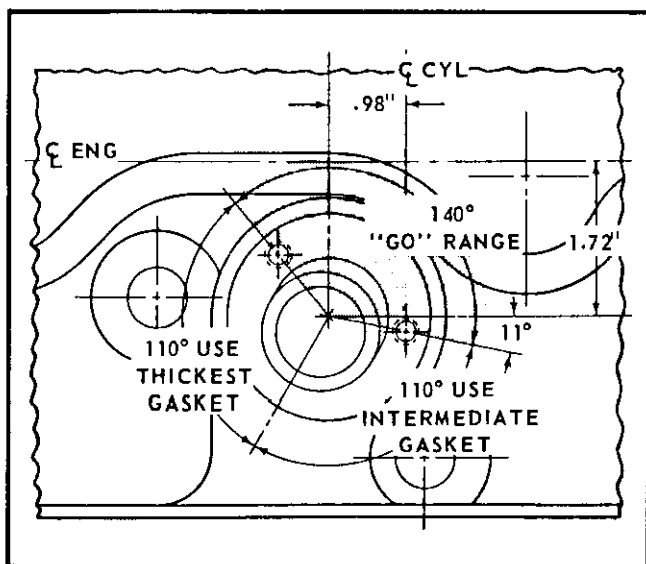

Figure 2-14. Precombustion chamber assembly
5. Install and check precombustion chambers (52) positioning as follows:
a. Install thinnest gasket (54) (0.194 inch) first. Install precombustion chamber (52) and torque to 140 to 160 foot pounds.
b. If glow plug opening is not positioned in the "GO" range indicated on figure 2-14, remove the precombustion chamber and replace gasket with that called for on figure 2-14.